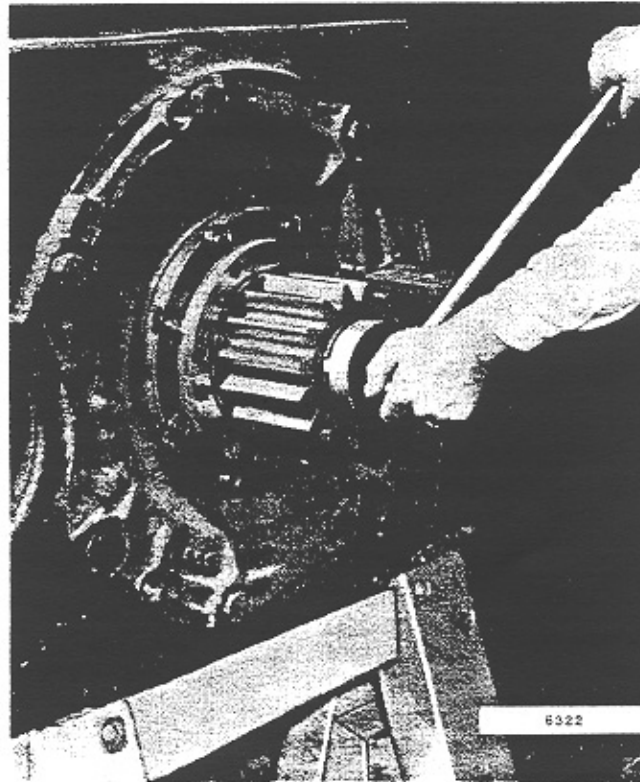

Fig. 32 - Removing Pinion Retaining Nut
1. Remove the nut from end of armature shaft with a retaining nut wrench and handle, Fig. 32, or with an air impact wrench.